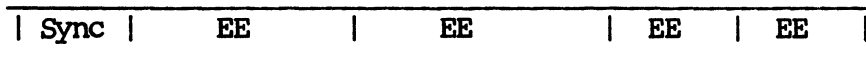

Figure 8-6. Header Marked Bad
4. After locating the bad sector, mark it by writing EEH into each of the four header bytes (see Figure 8-6).
2. Read the track headers and mark the defective sector bad (see Figure 8-6).